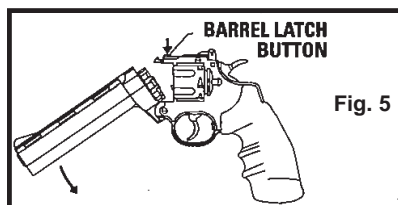

Fig. 5
- Press down on the barrel latch button and open the airgun. (Fig. 5)
- Press the barrel latch button down and open the airgun (See Fig. 5).
- Press the barrel latch button down to open the airgun (See Fig. 5).